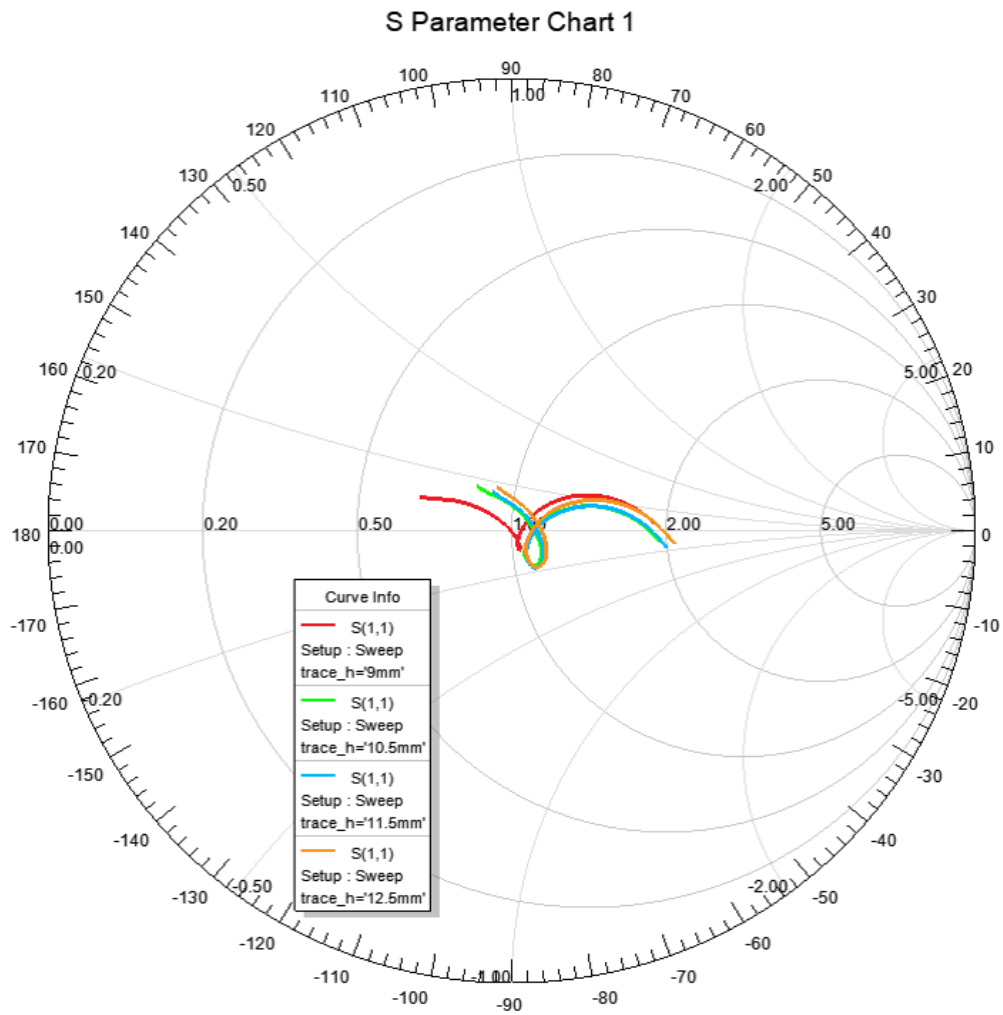

Figure 16. trace_h Parameter Chart
- trace_h Parameter Chart (Figure 16)